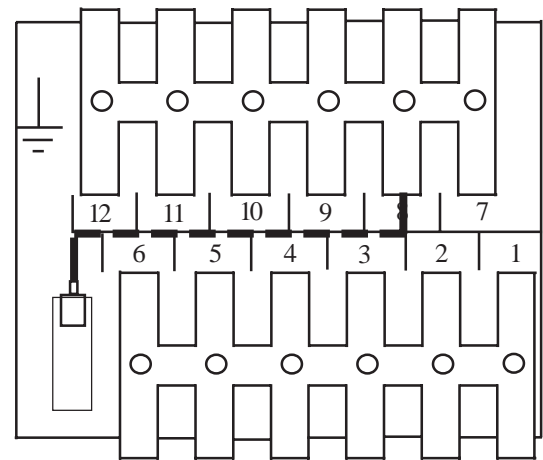

Fig. 6
- c. Locate the 'Voltage Selector' (refer to Fig. 6 and Table 2) and transfer the flying lead to the next connection on the terminal block,